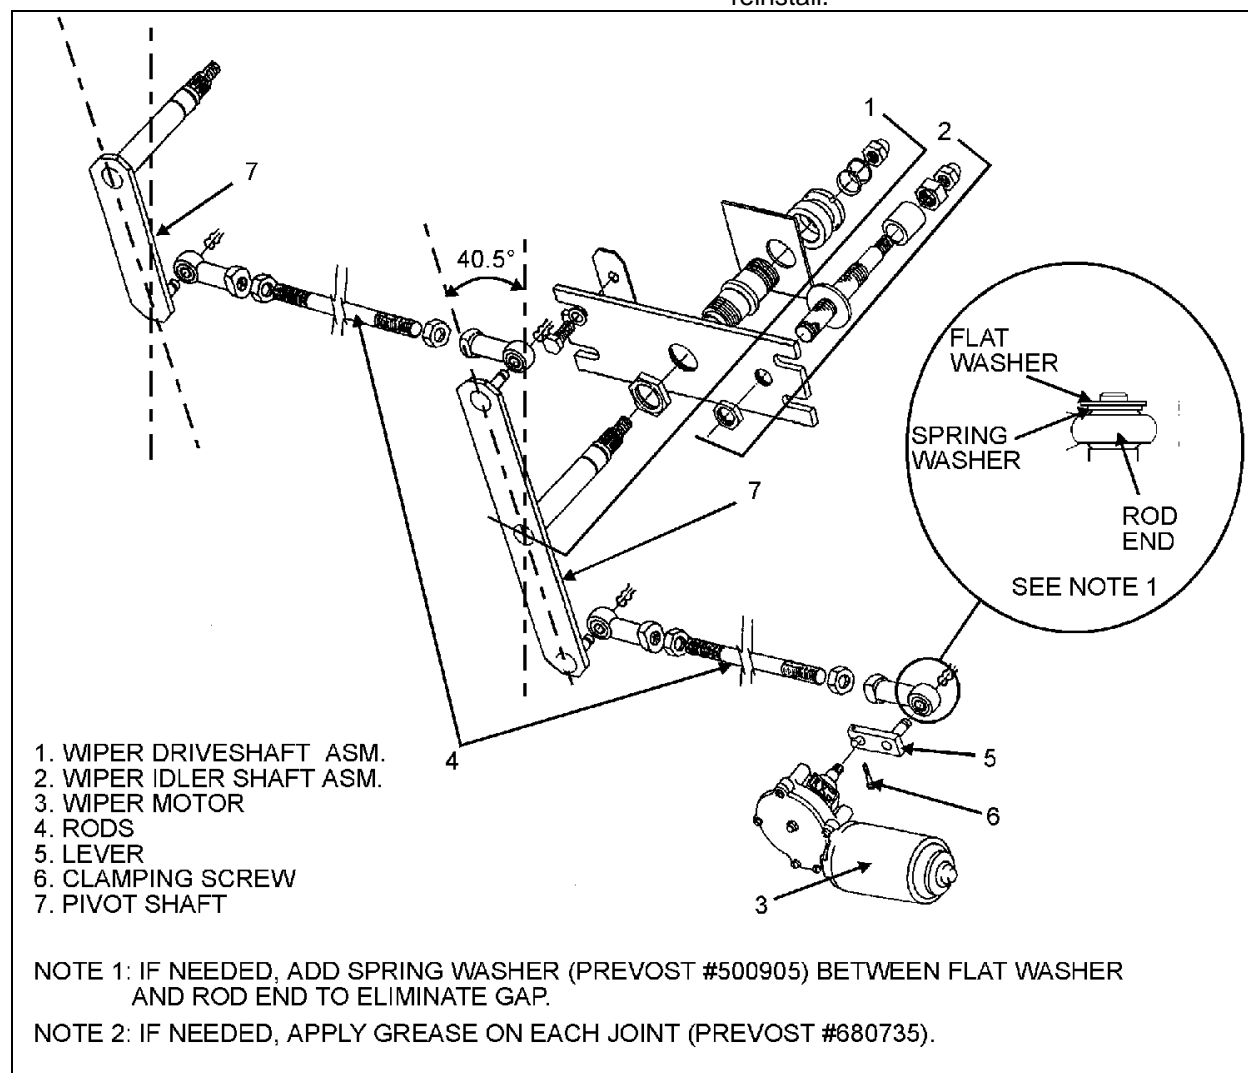

FIGURE 38: LOWER WINDSHIELD WIPER INSTALLATION
4. Adjust the rod located between right pivot shaft and motor to a 40.5° angle (Figure 38). The motor lever must be on the same axis as the rod.